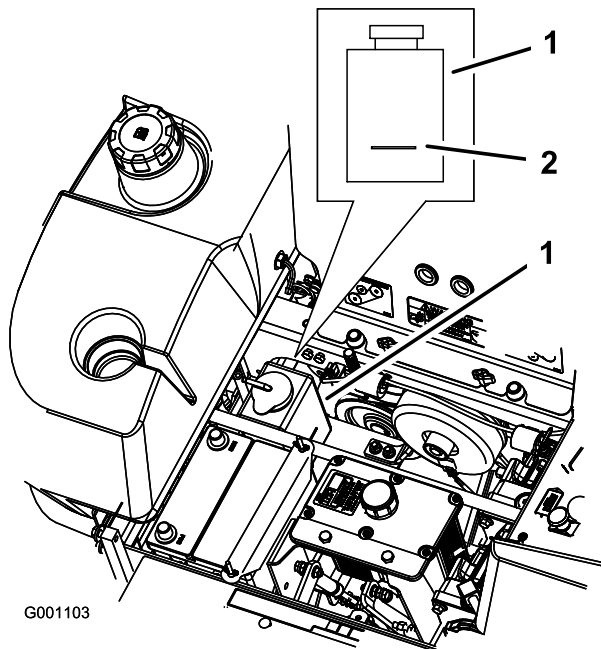

Figure 60
3. With the engine cool, check the overflow bottle level. The fluid needs to be up to the bump on the outside of the overflow bottle (Figure 60).
4. If the coolant level is low, add a 50/50 mix of extended life antifreeze/Dex-Cool® and water to the overflow bottle (Figure 60).
5. Add the 50/50 coolant mix to the overflow bottle and fill it to the indicator line on the bottle (Figure 60).